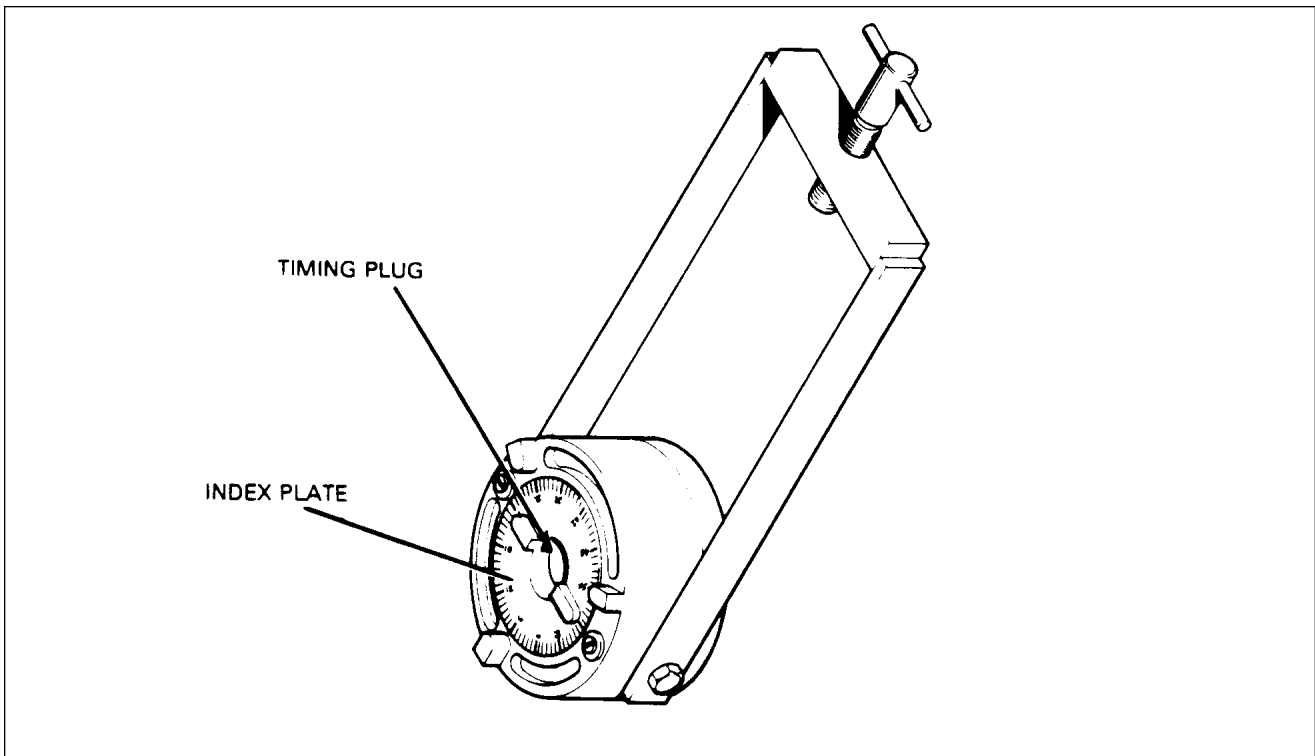

Figure 74-4. Index Plate and Timing Plug
3. Assembly Of Magnetos (Refer to Figures 74-4 thru 74-7.)
Before using slick T-100 assembly and timing tool, align index plate (bottom of tool) to number 67 to time magneto. (Refer to Figure 74-4.)